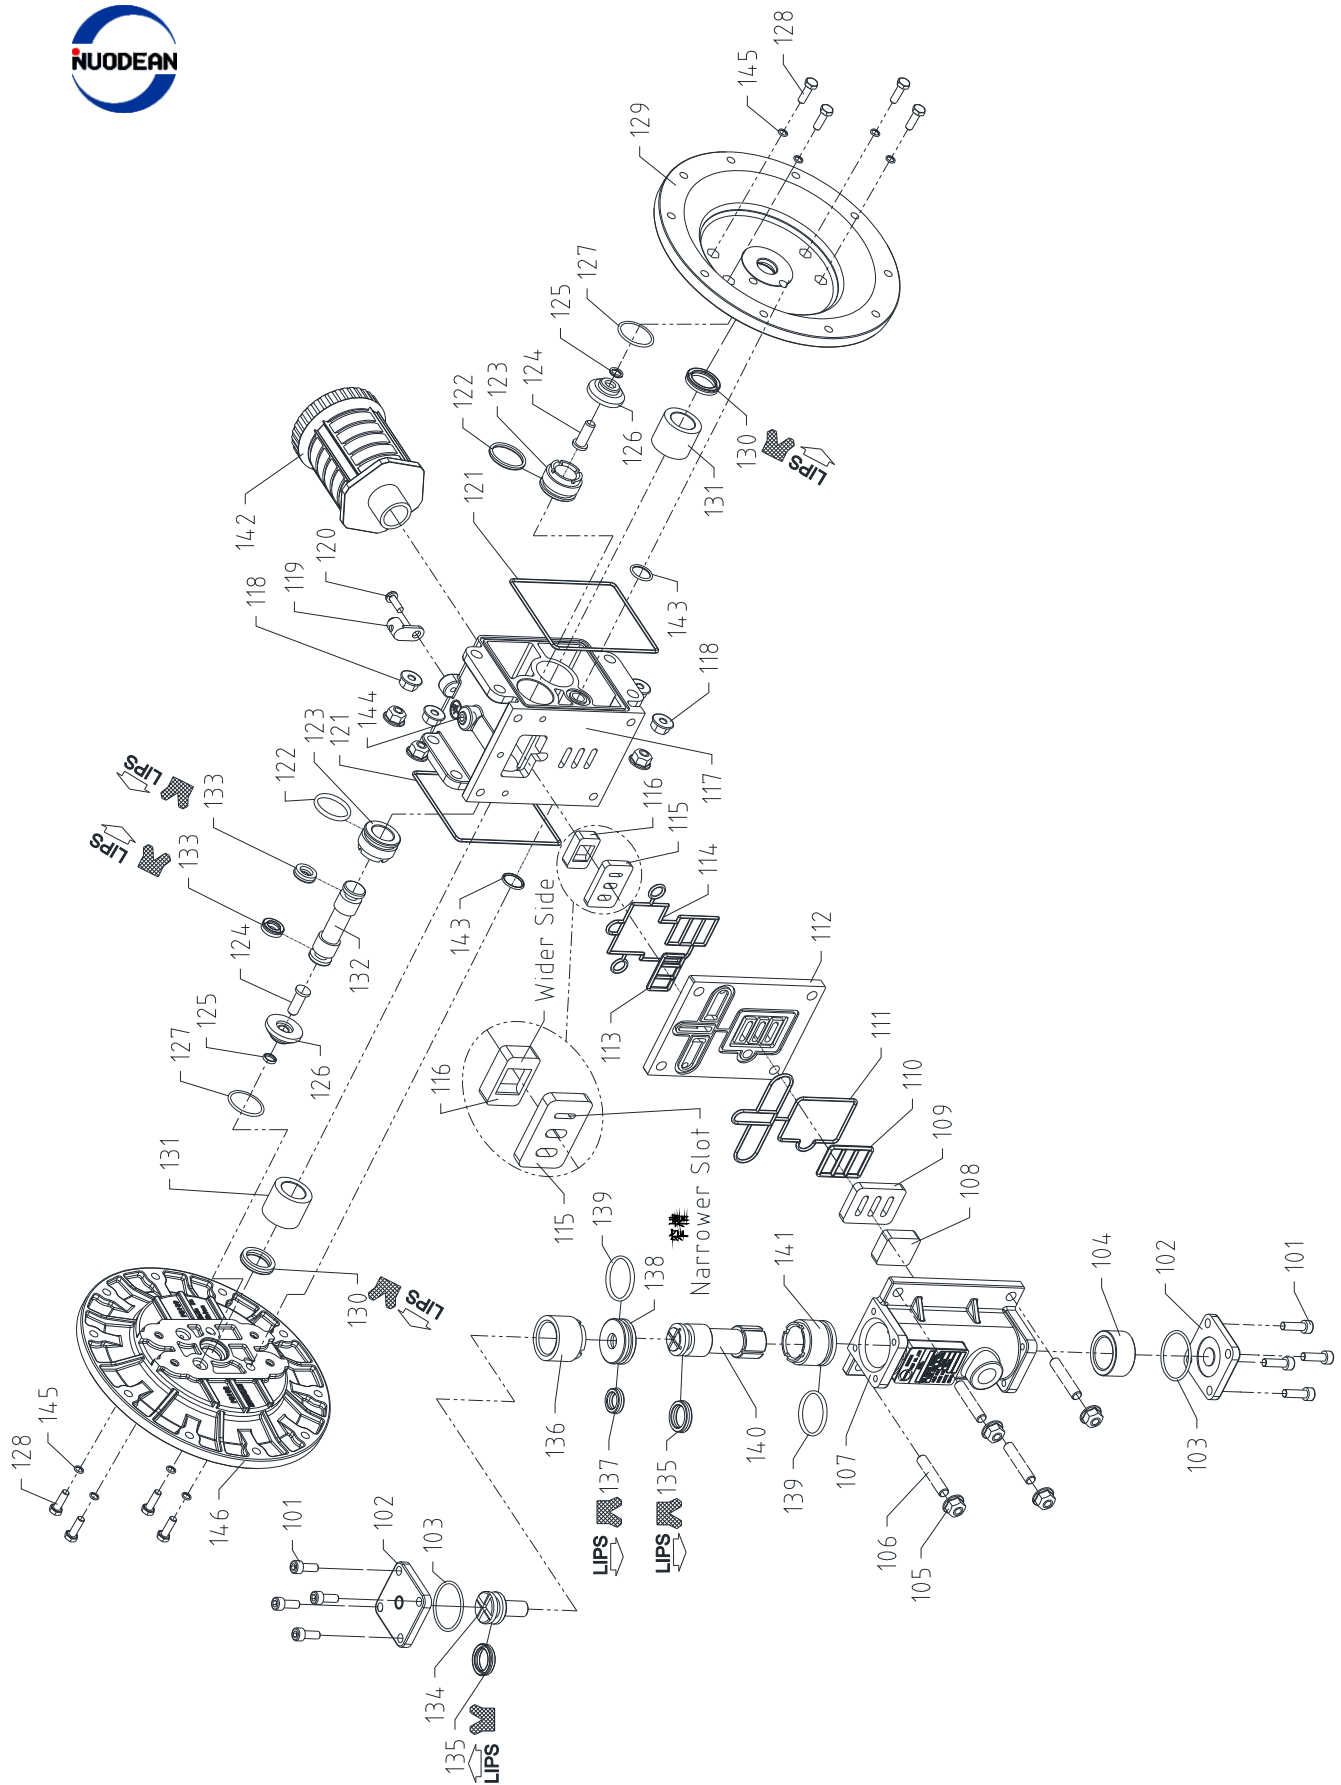

Figure 8
- 3.Remove (128), (146), (129), (145), (121), and (143). See figure 5 & figure 8.